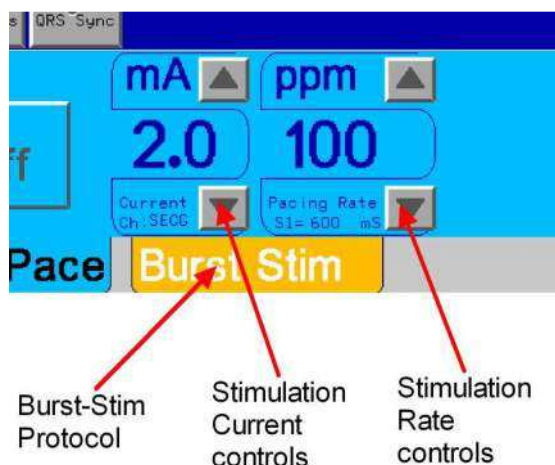

Figure 7 Stimulus Parameter adjustment
- ❑ Menus and submenus are navigated by touching their names (e.g. Burst Stim in Figure 7)
- ❑ Numerical parameters may be adjusted by touching adjustment Up/Down buttons (Figure 7) or by tapping the number, which will display a numeric or alpha-numeric keypad for entry (Figure 9).